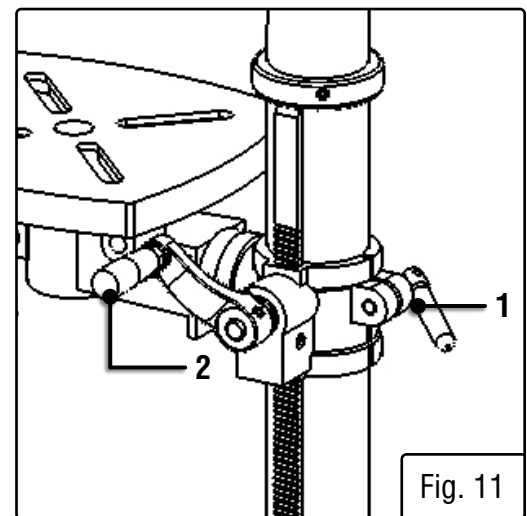

Fig. 11
RAISE OR LOWER THE TABLE (FIG. 11)
1. Loosen the support lock handle (Fig. 11 - 1) and turn the crank handle (Fig. 11 - 2) until the table is at the desired height.
ROTATE THE TABLE (FIG. 11)
1. Loosen the support lock handle (Fig. 11 - 1) and turn the table around the column to the desired position.